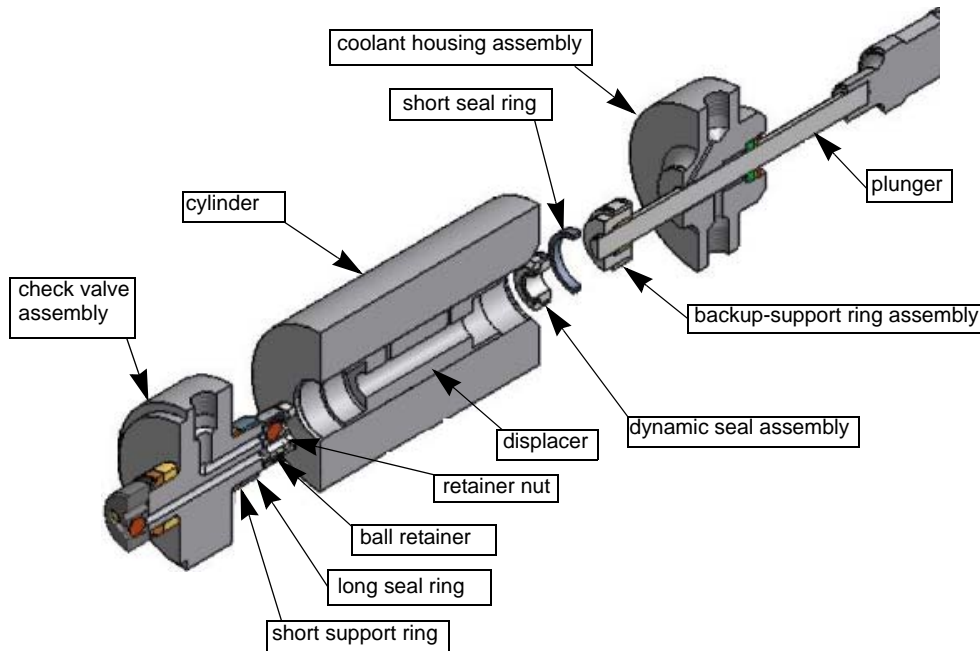
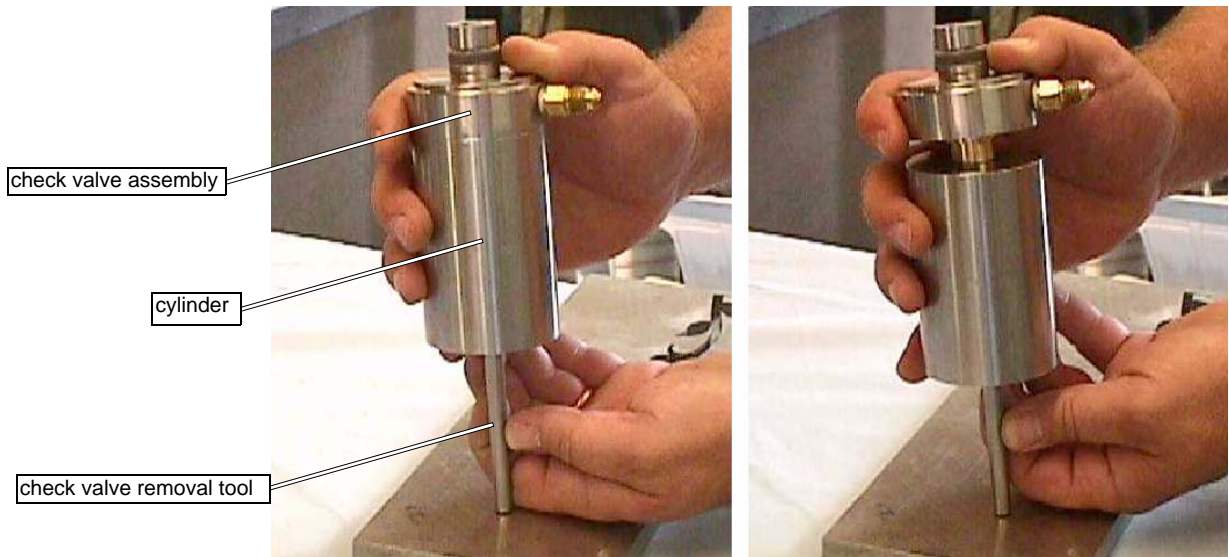

Figure 5-7: High-pressure Wet End Assembly Components
Figure 5-9: Using the Check Valve Assembly Removal Tool
2. Insert the Check Valve Removal Tool (Figure 5-9) through the Backup-support Ring Assembly (Figure 5-7) of the first Cylinder until it contacts the check valve Retainer Nut inside the Cylinder.